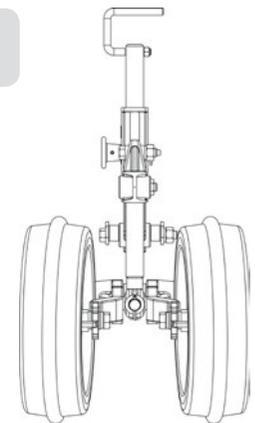

Figures 43
- The depth limiting wheel angle (1) is intended to press the furrow causing the soil to be immediately replaced on the seed avoiding excessive compression, facilitating germination and plant growth. For these settings, proceed as follows:
- 01 - Loosen the screws and washers (1), remove the wheel (2), adjust the wheel adjustment point (3) in the adjustment of the wheel shaft (4), then reattach the wheel (2) with washers and screws (1), proceed as shown in Figures 43.